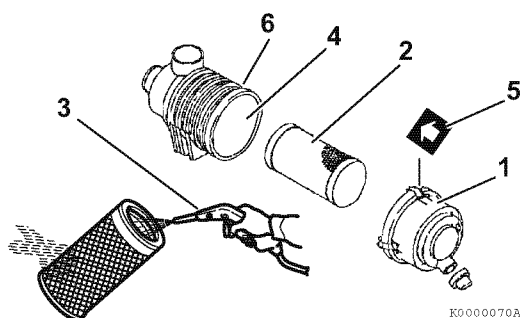
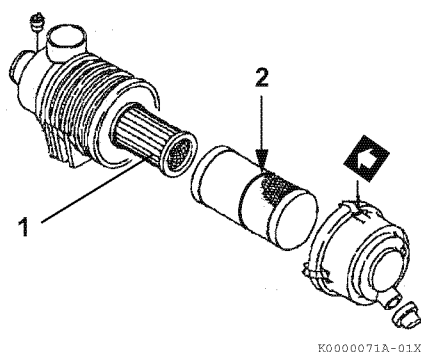

Figure 9
Figure 10
Note that a typical air cleaner is shown in **Figure 9** and **Figure 10** for illustrative purposes only.
1. Unlatch and remove the air cleaner cover (1, **Figure 9**).
2. Remove the element (2, **Figure 9**) (outer element if equipped with two elements).
3. Blow air (3, **Figure 9**) through the element from the inside out using 42 - 71 psi (0.29 - 0.49 MPa, 3.0 - 5.0 kgf/cm²) compressed air to remove the particulates. Use the lowest possible air pressure to remove the dust without damaging the element.
4. If the air cleaner is equipped with a double element, only remove and replace the inner element (1, **Figure 10**) if the engine lacks power or the dust indicator actuates (if equipped).
7. Reinstall the element into the air cleaner case (4, **Figure 9**).
*Note: If there is a red line (2, **Figure 10**) in the outer element, reinsert the element until the overlap position of red line and end face of the air cleaner case.*
8. Reinstall the air cleaner cover making sure you match the arrow (5, **Figure 9**) on the cover with the arrow on the case (6, **Figure 9**).
Replace the air cleaner element (2, **Figure 9**) every 500 hours even if it is not damaged or dirty.
When replacing the element, clean the inside of the air cleaner case (4, **Figure 9**).
If the air cleaner is equipped with a double element, only remove and replace the inner element (1, **Figure 10**) if the engine lacks power or the dust indicator actuates (if equipped). This is in addition to replacing the outer element.